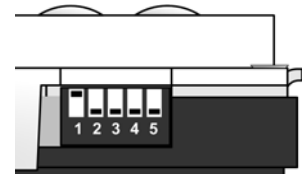
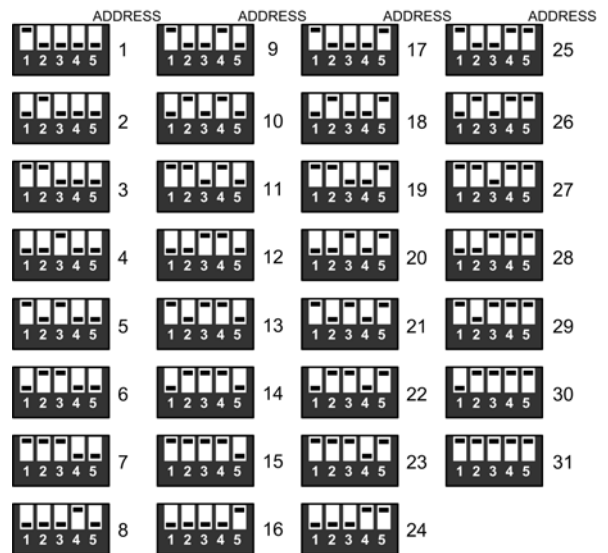

Figure 7. ALC Address DIP Switch
Figure 8. ALC Unit Addresses
Step 9: Set the Switch's unit address. Each ALC communication wiring branch may include up to 31 uniquely addressed ALC devices. All ALC devices residing on the same communication wiring branch must be assigned unique unit addresses. The unit address is set via the 5-position DIP switch on the side of each ALC device. Figure 7 depicts unit address no. 1: position 1 = up, position 2-5 = down. Figure 8 depicts the address DIP switch configurations for all unit address settings; 1–31.